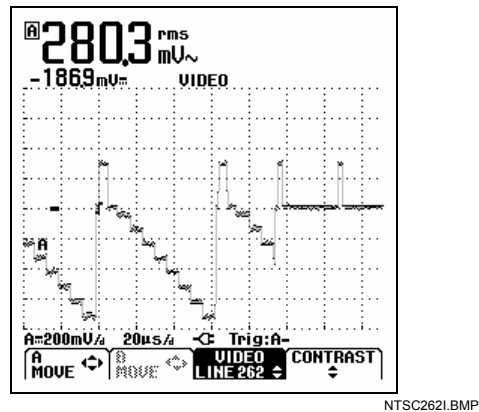

Figure 3-17. Test Tool Screen for NTSC line 262 Negative Video
- \Rightarrow line number 262 for NTSC, see Figure 3-17.